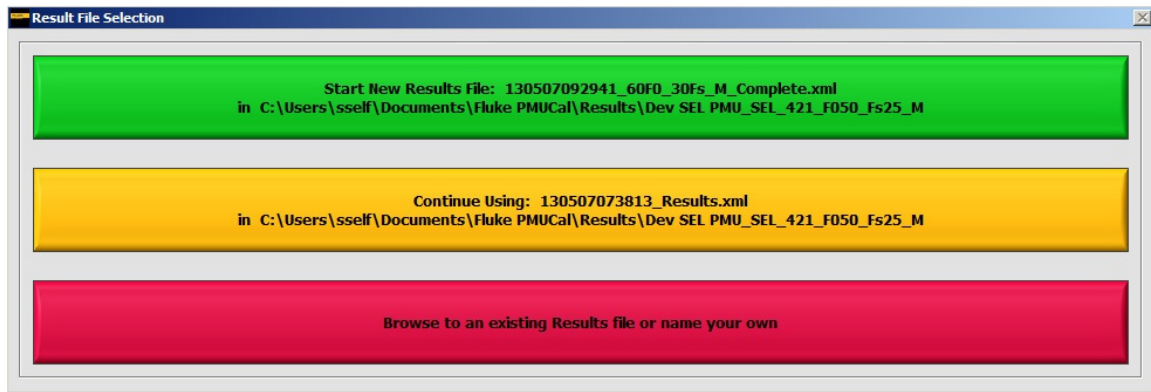

Figure 5-2. Results File Selection
5. Make a selection on how to save the automated test results (see Figure 5-2). After a selection is made, the test status window opens and the automated test immediately starts.